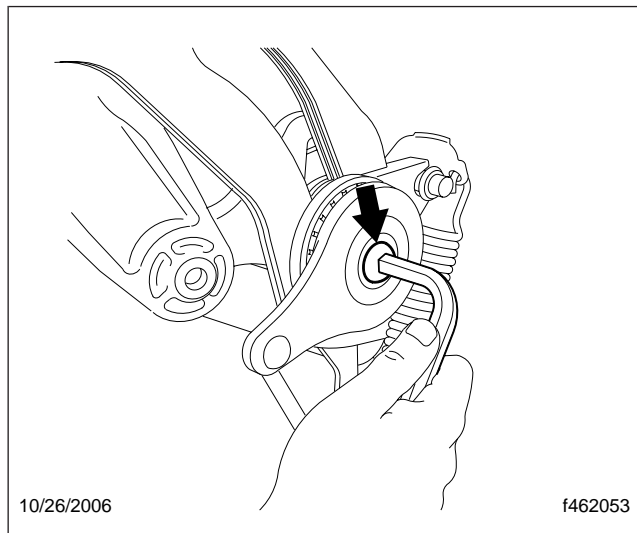

Fig. 4, Securing the Lockbolt
7. Make sure the tilt/telescope adjustment pedal is in the fully locked position, then secure the lock bolt in position using an M8 hex wrench, then tighten the castle nut 85 lbf-in (960 N-cm). See Fig. 4.